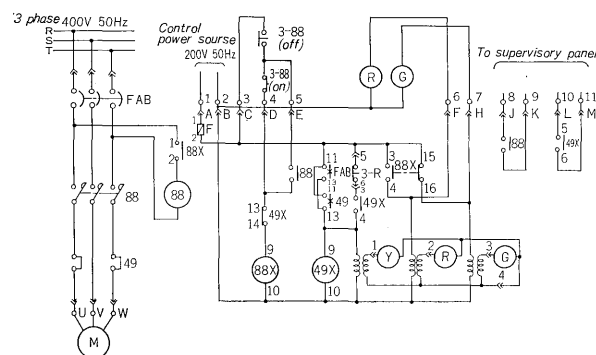

Fig. 12 Standard connection diagram
- 2) Common system: A control transformer is provided for every group which to compose the control center, and control power is supplied from common bus bars. (Refer to Fig. 12)